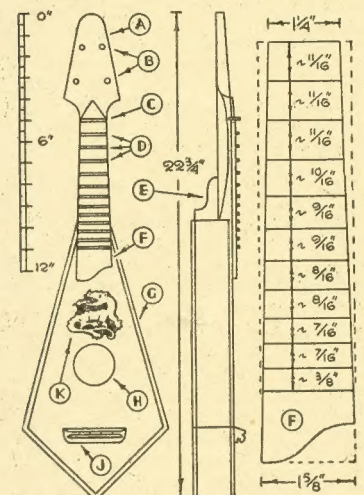

Fig. 1—Front and side elevation, with fingerboard shape and sizes
A front and side elevation appears at Fig. 1 to give a clear impression of the work. The alphabetical letters indicate (A) the handle head, (B) peg holes, (C) nut, (D) frets, (E) handle
Regarding the finger-board (F), an enlarged view is given at Fig. 1, together with the exact fret positions. The wood is $\frac{1}{8}$ in. thick and should be planed true prior to shaping it to correspond with the handle.